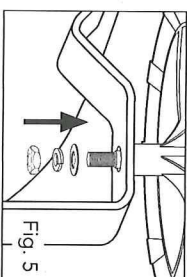

Fig. 5
5. From the inside of the wheel bracket, place a flat washer, then a spring washer onto the axle bolt. Fasten the wheel bolt in position with a nut (nuts and washers supplied) (Fig. 5).